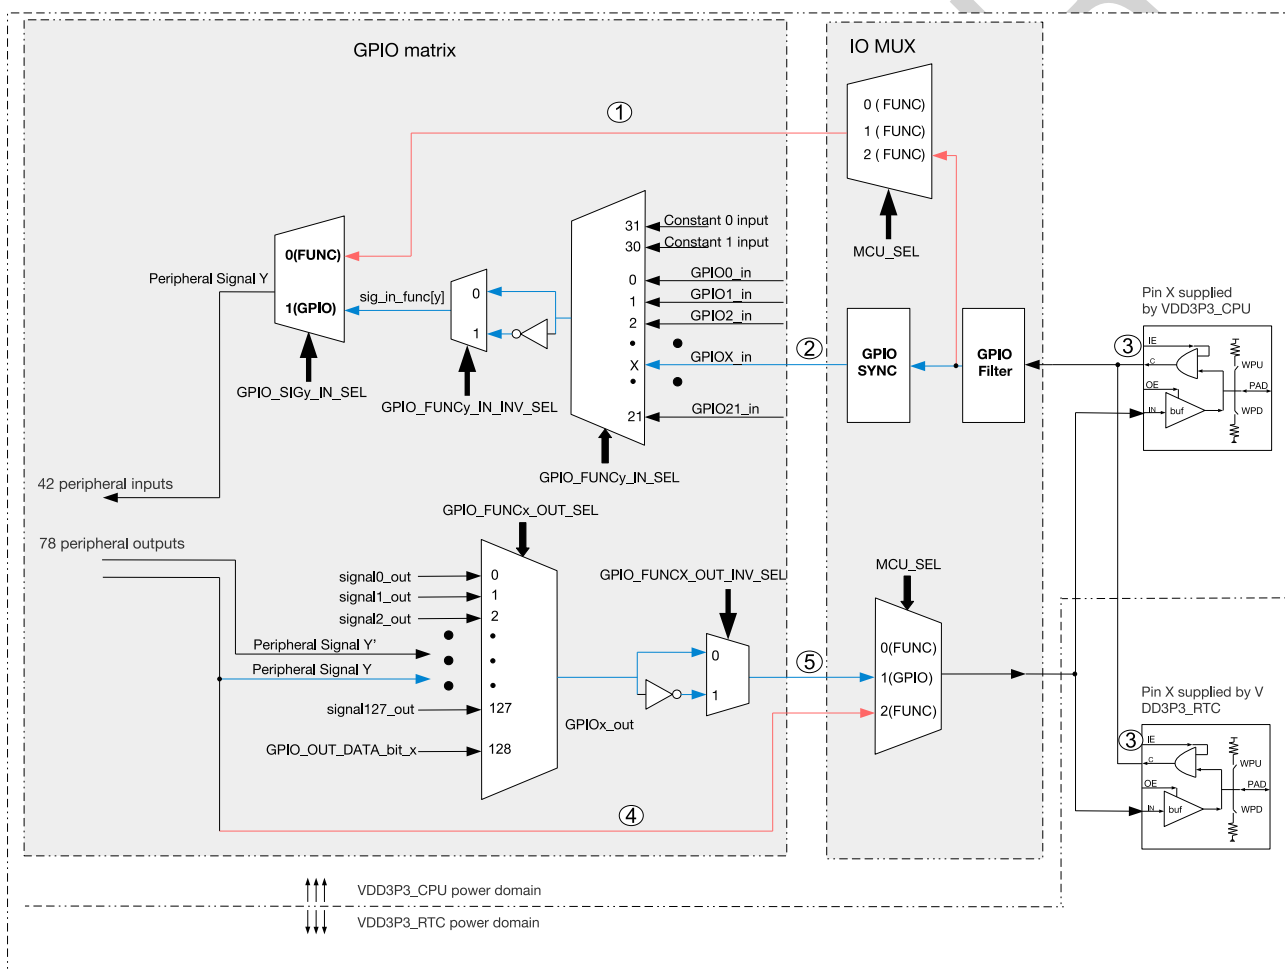

Figure 5-2. Architecture of IO MUX and GPIO Matrix
- Figure 5-2 shows in details how IO MUX and GPIO matrix route signals from pins to peripherals, and from peripherals to pins.
When signals are directed from pins using GPIO matrix, the signals will be synchronized to the APB bus clock by GPIO SYNC hardware, then go to GPIO matrix. This synchronization applies to all GPIO matrix signals but does not apply when using the IO MUX, see Figure 5-2.
Some of the 78 output signals (signals with a name assigned in the column "Output signal" in Table 5-1) can be set to go through GPIO matrix into IO MUX and then to a pin. Figure 5-2 illustrates the configuration.